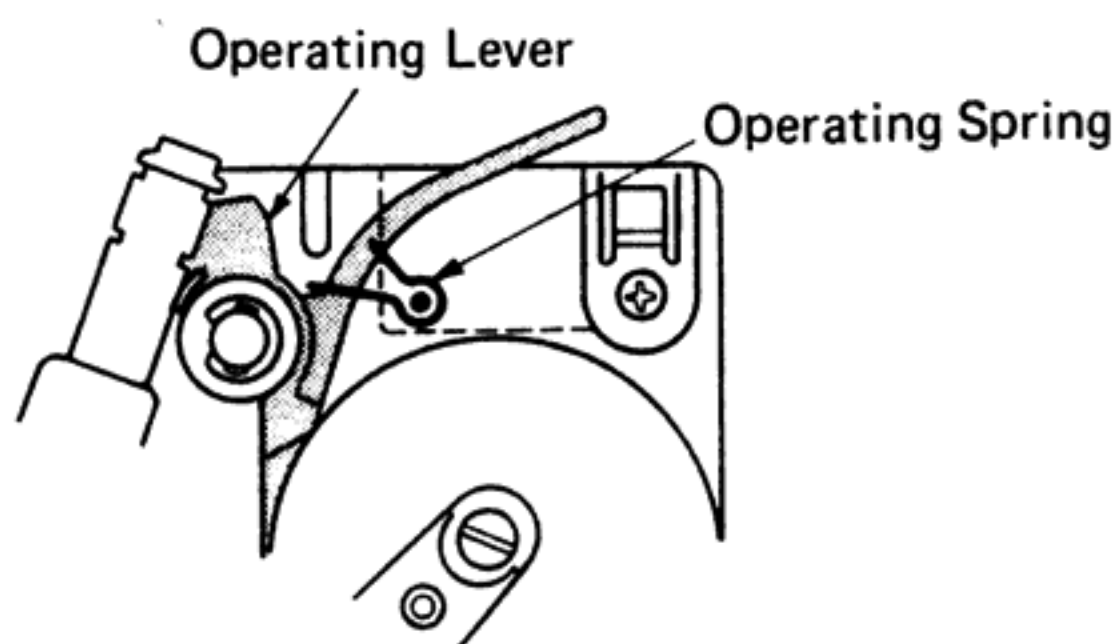

Fig. 8
- \* At this time make sure that the operating lever and the operating spring are placed as shown in Fig. 8.